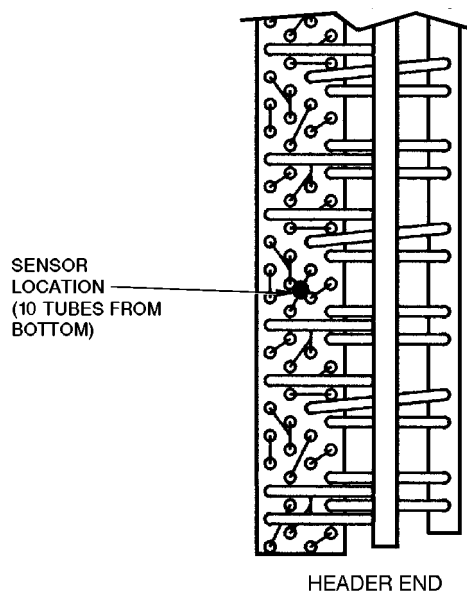

Fig. 32 — Low Ambient Kit Sensor Location
**Sensor** — Install the sensor for thermistor input control in the location shown in Fig. 32. Connect sensor leads to the violet and grey control signal leads on the Motormaster III control.